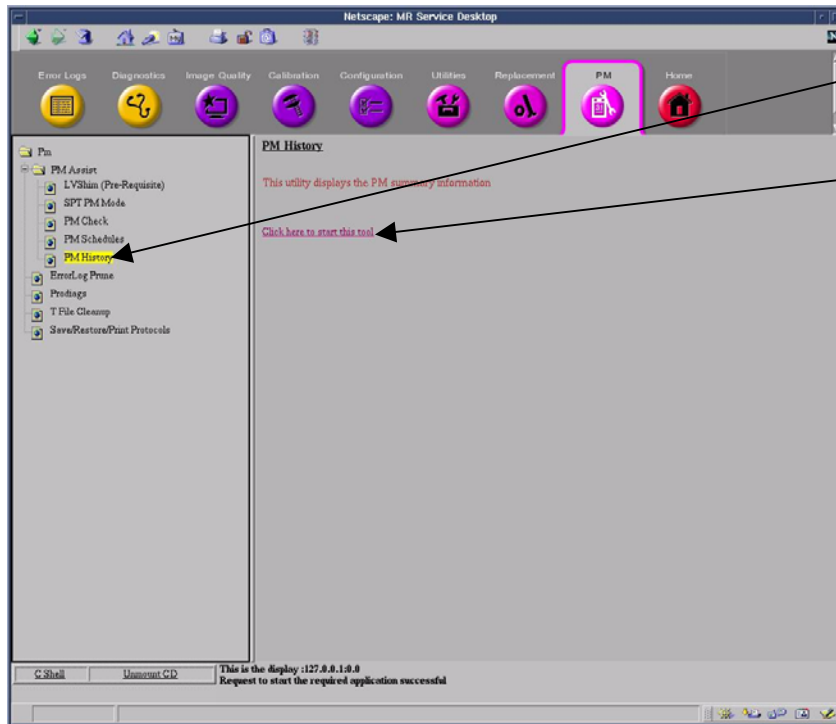

Figure 38a
1. Click on "PM History" in the expanded PM folder. See Figures 38a and 38b. The right side of the screen will provide more details about PM History and a link to start the PM History tool.
2. Click on the link: "Click here to start this tool" (shown in Figure 38a) to start the PM History tool.